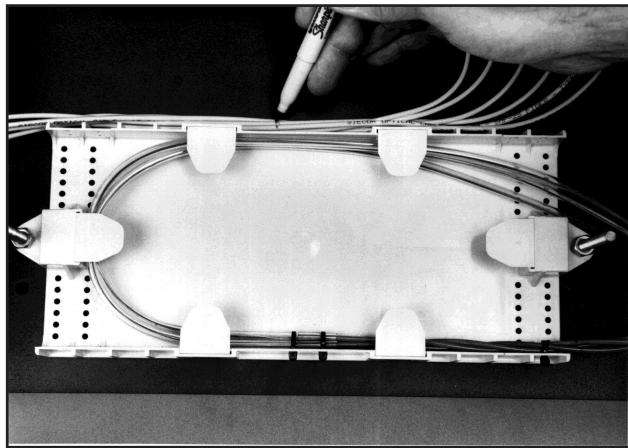

FIGURE 6 - MARK THE PIGTAILS
- 7.05** Mark jacket of each of the pigtails at a point 2" beyond the bending radius. (Figure 6)